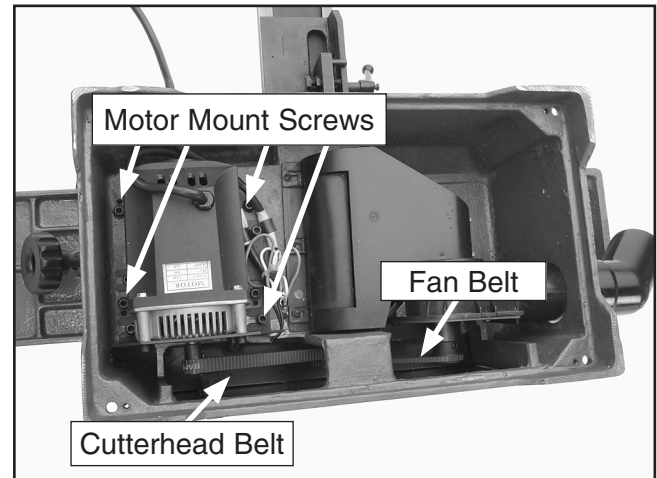

Figure 46. Motor mounting screws and belt locations.
6. Loosen the four motor mounting cap screws(see Figure 46), but do not remove them.